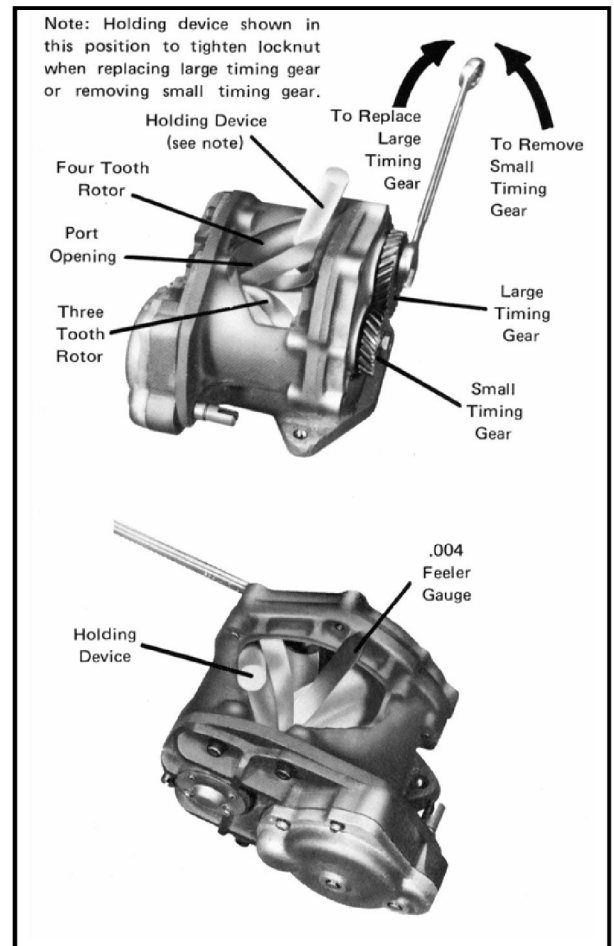

Figure 4-2 Typical Method for Blocking Rotors when Timing Rotors and when replacing large Timing Gear or removing small Timing Gear.
8. **TIMING PROCEDURE** (See Figure 4-2). Insert a holding device, such as a nylon or wooden dowel, into the port